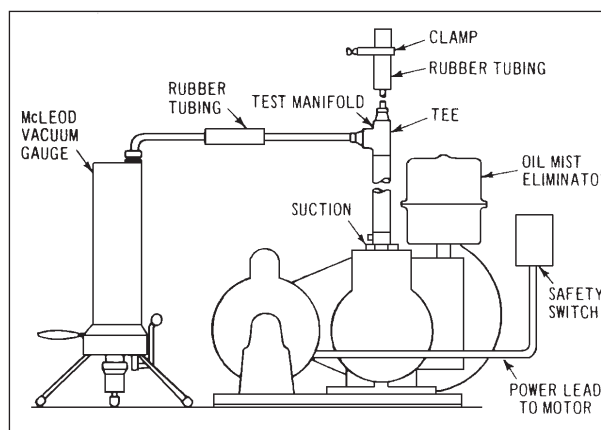

Figure 6-1 – Pump Test Manifolding
NOTE: If possible, also read the blank-off pressure with a thermistor or thermocouple gauge. See *Figure 6-1* and *Table 6-1* for common faults in vacuum systems.
1. Close off the pump inlet by means of a vacuum valve or short segment of manifolding, as shown in *Figure 6-1*.